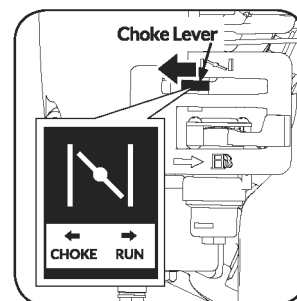

Figure 9
2. Move the choke lever to the CHOKE position. (See **Figure 9**)